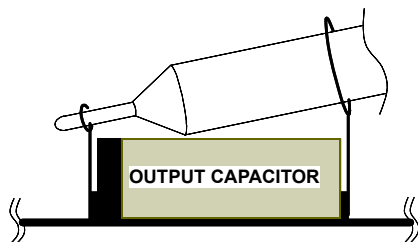

FIGURE 2. IDEAL PROBE SETUP TO MEASURE OUTPUT RIPPLE AND LX NODE RINGING
5. Use an oscilloscope to observe output voltage ripple and phase node ringing. For accurate measurement, refer to Figure 2 for ideal output voltage ripple test setup.